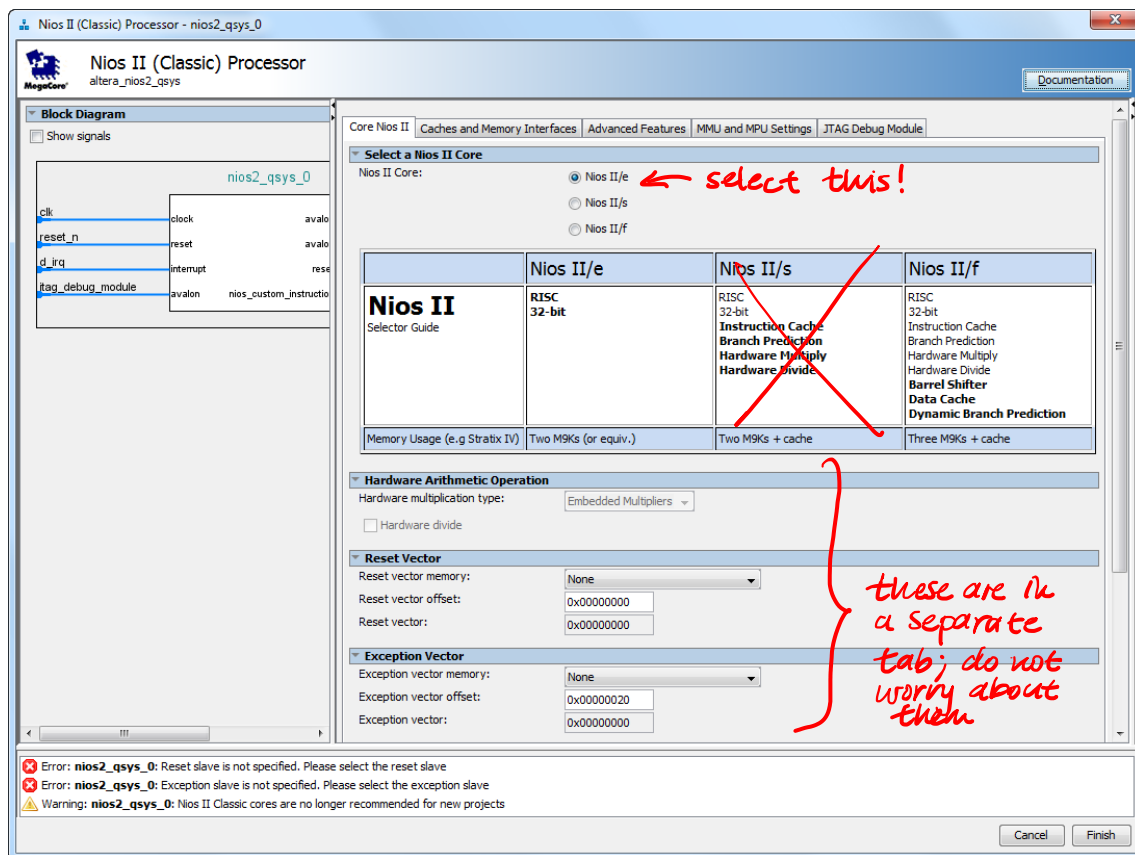

Figure 5. Create a Nios II processor.
- On the left side of the Qsys window expand Processors and Peripherals, select Embedded Processors > Nios II ~~(Classic)~~ Processor and click Add..., which leads to the window in Figure 5.